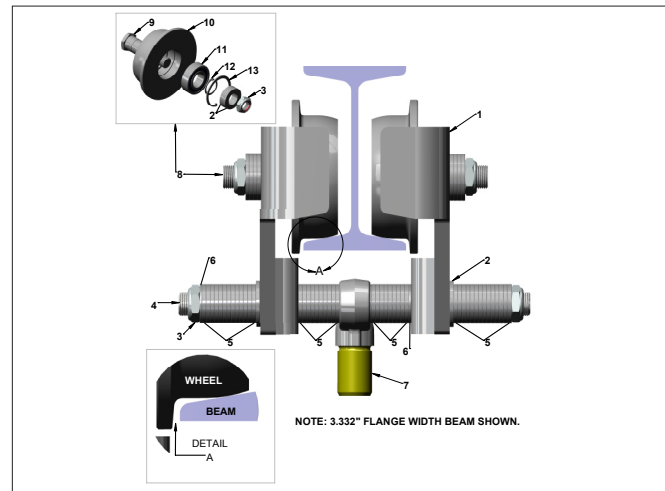

FIGURE 2-1. CTA TROLLEY
- See Figure 2-1 for instructions on adjusting lug- mounted plain trolleys.
- I-Beam Adjustment** - Adjustment for I-Beam sizes and tolerances is accomplished by locating the spacer washers as shown in Figure 2-1. Normal placement of washers is given in Table 2-2. Refer to Table 2-1 for identification of part names and numbers.